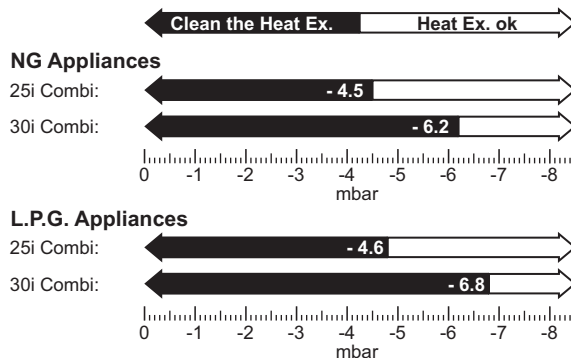

Fig. 67 Fan pressure readings
- ▶ The pressure will read negative, refer to the chart in figure 67.